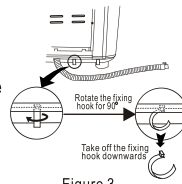

Figure 3
- Rotate the drain hose fixing hook for 90° to take it out from the installation hole (As per Figure 3).